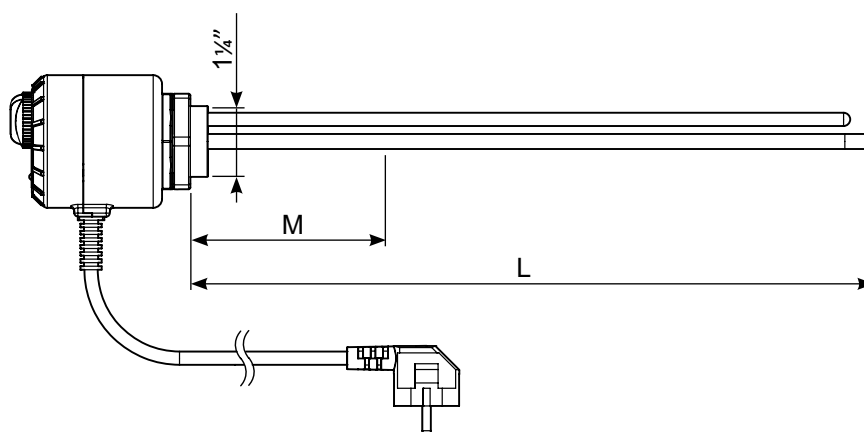

Fig. 6. ME 0015 Geometrical data.
* measured from the heater front (see Fig. 6 or 7).